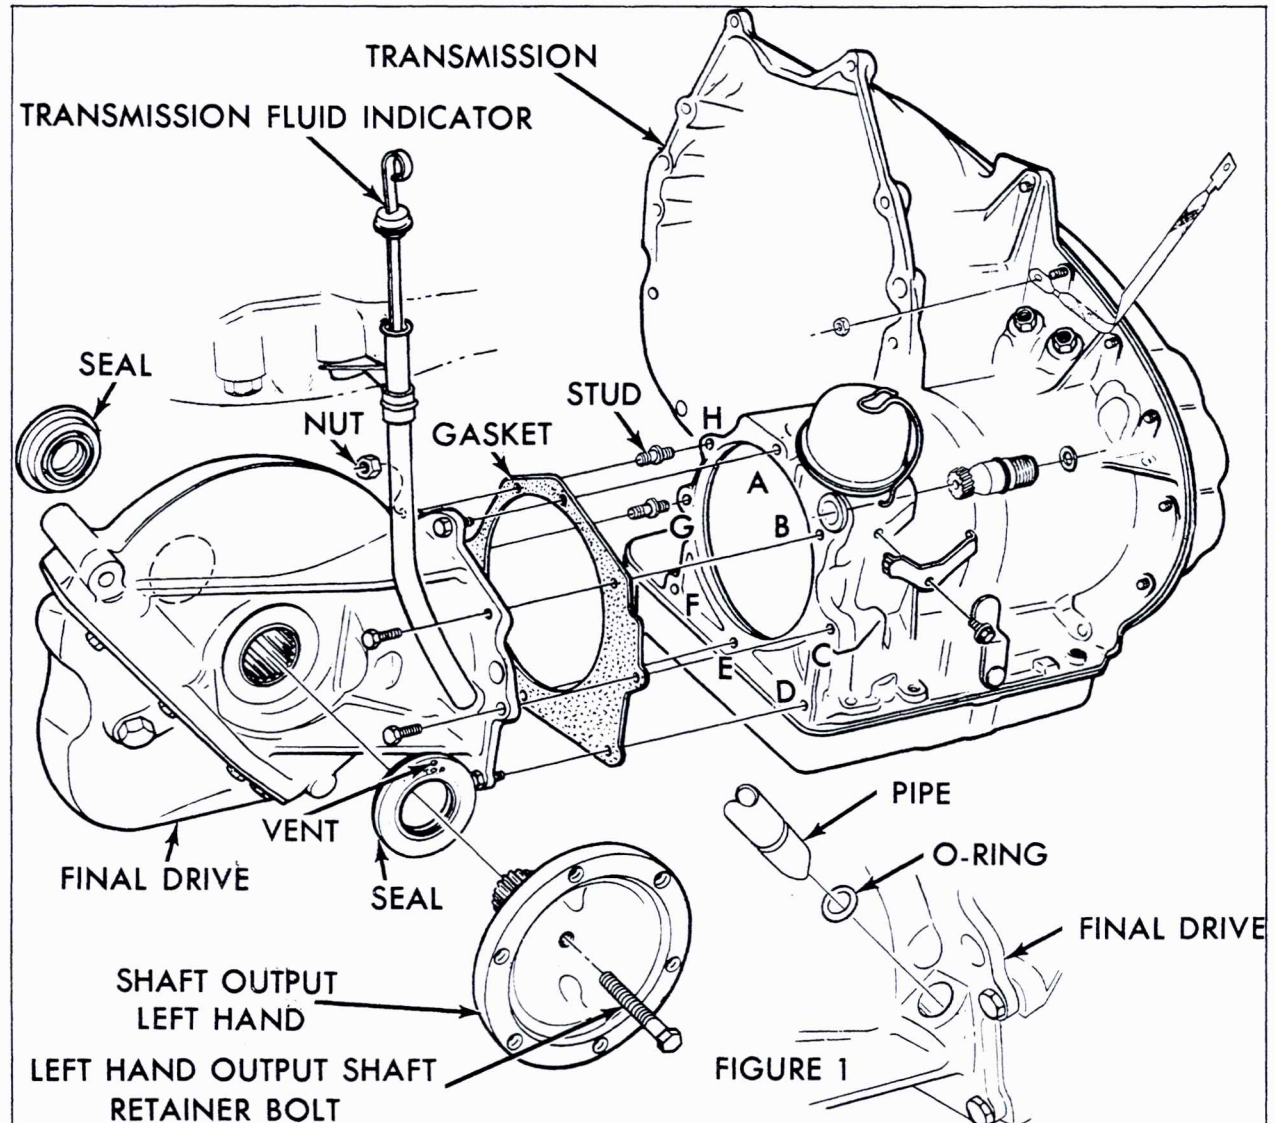

Fig. 3-75 Final Drive Attachment
6. Remove bolts "A" and "B" and nut "H" securing upper part of final drive case to transmission case, Fig. 3-75.
30. Install a new O-ring on transmission filler pipe, Fig. 3-75.